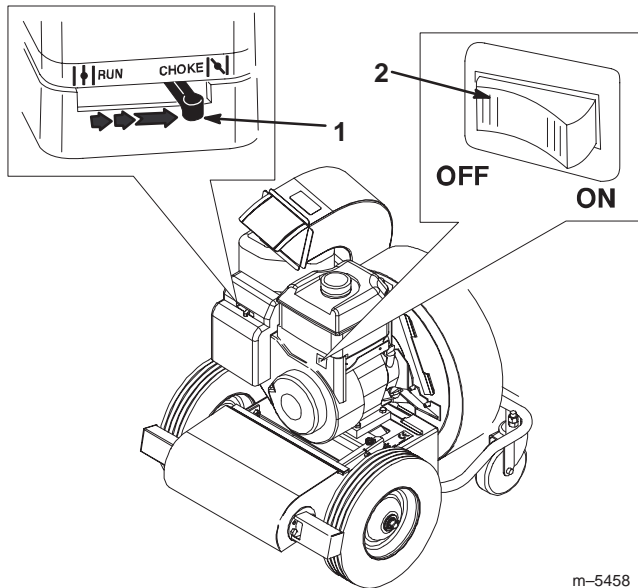

Figure 11
1. Move the choke lever (located on the left side of the engine) to the Choke position (Fig. 11).
2. Move the On/Off Switch (located on the right side of the engine) to On (Fig. 11).
4. As the engine warms up, slowly move the choke lever to the Off position (Fig. 11).